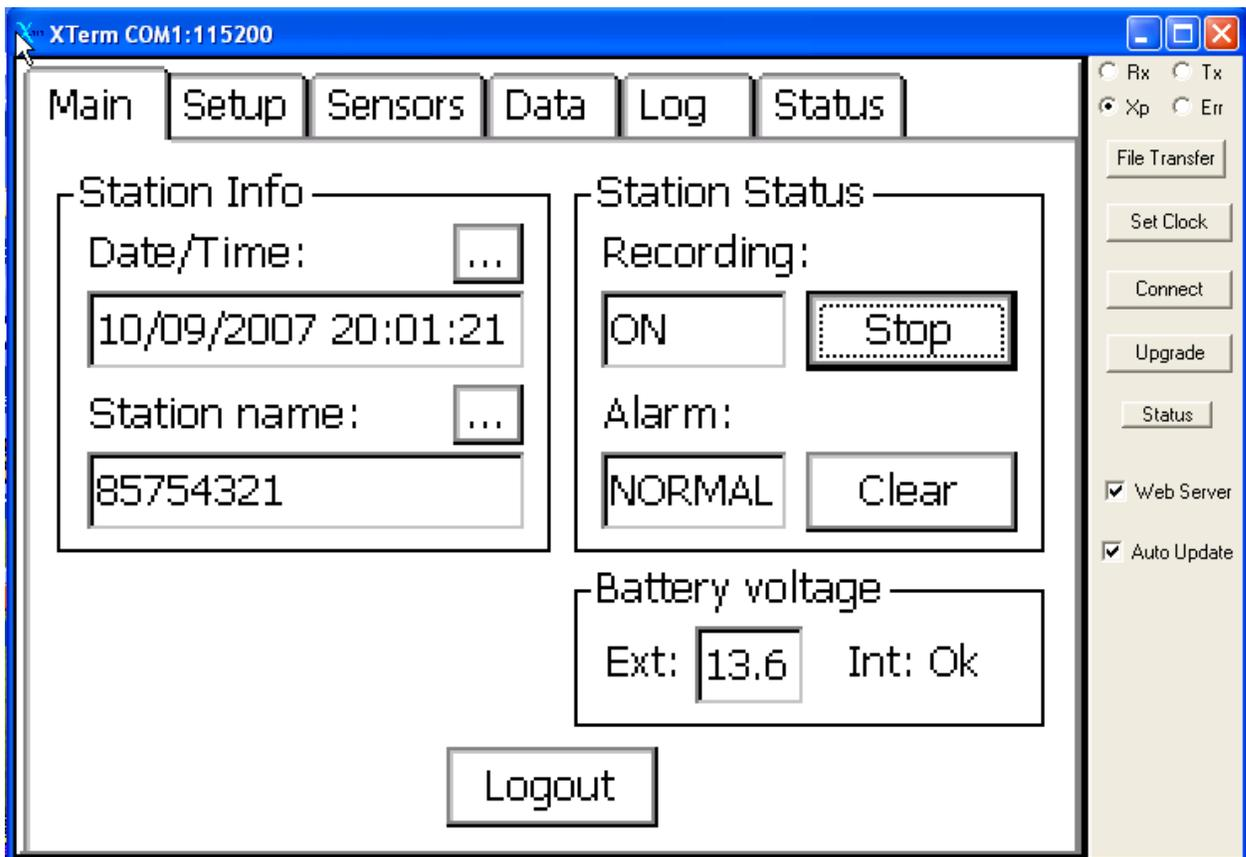

Fig 12. Xpert Main Page
5. The next screen to appear is the *Main Page* (Fig 12).